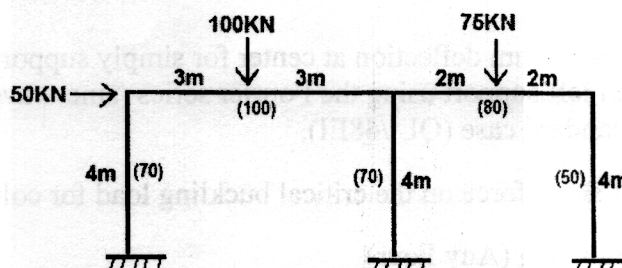

Fig.2
Q.1(a). Explain the following terms in detail (10)
Q.1(b). A three span continuous beam ABCD with span AB=6m, BC=6m and CD=4m respectively. Span AB carries udl of 17 KN/m. Span BC carries point of 51KN at a distance of 2m from B and 25.5 KN at distance of 4m from B. Span CD carries point load of 34 KN at center. Point A is hinge support, joints B, C and D are roller supported. Find plastic moment capacity if beam is to have uniform section throughout. (10)
Q.2. For the frame shown in fig.2, find the collapse load factor. Loads shown in figure are working loads (KN) and the bracket values give the plastic moment capacity for each respective section in KN-m. (20)